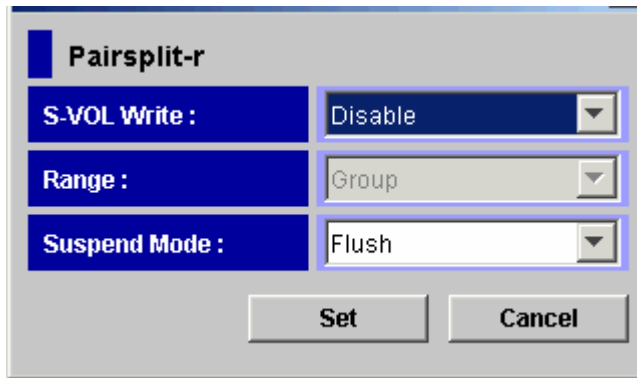

Figure 6-6 Pairsplit-r Window
7. In the Pairsplit-r window (Figure 6-6), specify parameters and then select Set.